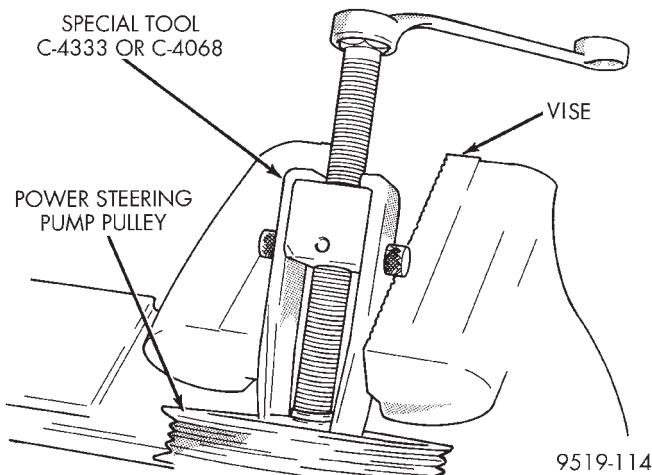

Fig. 51 Removing Pulley From Power Steering Pump Shaft
(2) Mount Puller, Special Tool C-4333 or C-4068 on power steering pump pulley. Mount power steering pump and puller in a vise (Fig. 51) to keep shaft of power steering pump from turning when removing pulley.